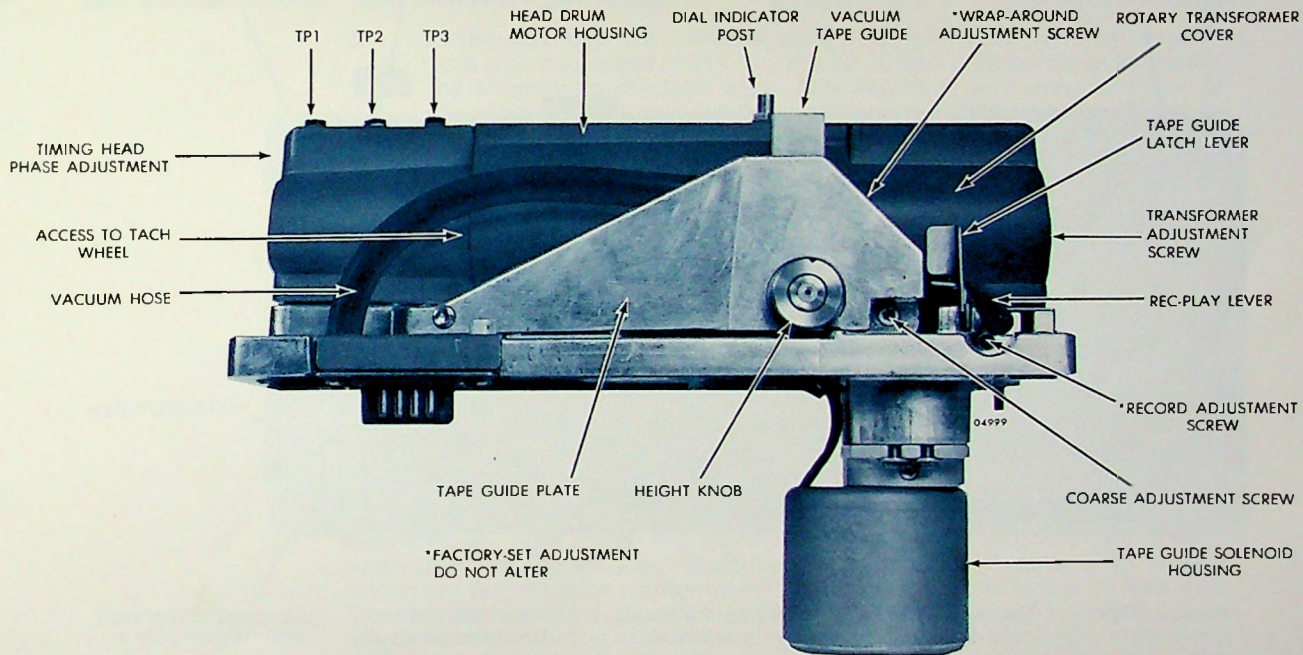

Figure 1. Mark Ten Video Head Assembly—Identification of Principal Elements and Adjustments
- a. Push in the REC-PLAY lever, turn it clockwise to the REC position, and release it. (See *Figure 1*.)
- d. If the assembly is air bearing-equipped, determine that the air pressure is at its normal level (60 pounds). Insert a finger tip in the opening adjacent to the tach wheel (see *Figure 1*) and spin the rotor. If the rotor does not spin freely, an adjustment of the clearance between the rotor and the stator of the rotary transformer may be required.
- b. Reproduce a standard test tape and adjust the coarse adjustment screw (see *Figure 1*) in small increments until skewing is eliminated.
OPENING (OR CLOSING) THE VACUUM TAPE GUIDE. To open (or close) the vacuum tape guide, *pull and hold* the tape guide latch lever (see *Figure 1*); while holding the latch lever, ease the guide into the fully open (or fully closed) position; then release the latch lever.
FACTORY SETTINGS. Several of the adjustment screws identified in *Figure 1* are factory-set by the use of special equipment and skills to establish precise relationships or conditions that are essential to the specified performance of the Mark Ten Video Head Assembly. A brief discussion of each follows.
- c. The factory setting of the adjustment screw which controls timing head phase (see *Figure 1*) should *not* be altered if the Mark Ten is used for the recording and reproduction of video information.
TACHOMETER CIRCUIT TEST POINTS. For convenience, three test points have been provided for the measurement of tachometer circuit voltages. (See TP1, TP2, and TP3 identified in *Figure 1*.) Tachometer circuit voltages are measured between ground and test point by means of an oscilloscope. The measurements at TP1 and TP2 are made while the head drum is turning at its nominal rate of 240 rps (or 250 rps).
Tip projection is the distance that the video head tips protrude above a reference surface on the video head drum. The reference surface is on the periphery of the drum adjacent to the trailing surface of video head number 1. Video head number 1 is identified by a yellow dot. AMPEX furnishes a special gauge for the measurement of tip projection. In use, this gauge is mounted on the video head assembly by means of a knurled screw (captive on the gauge assembly) which engages the dial indicator post identified in *Figure 1*. *Figure 4a* shows the gauge correctly mounted for the measurement.
- c. The tach wheel (see *Figure 1*) may be turned manually by extending a finger tip through the opening in the head drum motor housing marked in *Figure 1*. Turn the tach wheel and identify head tip number 1 (marked in yellow). Turn the tach wheel until head tip number 1 just enters the top of the vacuum tape guide.
- d. Mount the gauge, positioned as shown in *Figure 4a*. To do this, hold the gauge in position while engaging the captive knurled-head screw with the dial indicator post identified in *Figure 1*. Before tightening this screw, center the gauge spindle on the right hand edge of the chrome ridge, then tighten it just enough to hold the gauge firmly in position.